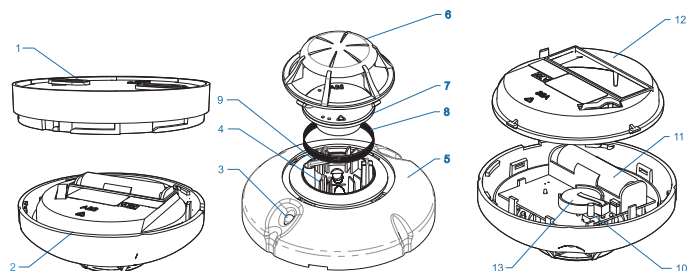

Fig.1
The fire detector consists of a printed circuit board and an optical chamber (pos.7, fig.1) and a thermo sensitive element (pos.9, fig.1), mounted into a plastic box (pos.5, fig.1). The fire detector is also equipped with a micro key, providing control over the removal of the detector from the base and the battery holder. The two LED indicators (pos.3, fig.1), one of them two-color (red and green), and the other – one-color (red), allow 360° visibility and provide information about the operating modes of the detector:
Fire detectors of series VIT are to be used with base type FD100 (pos.1, fig.1). In installation of the detector and the base observe the following sequence:
2. Set the fire detector into "Duty" Mode, and its zone into "Test" Mode and from 20 cm distance influence on the detector by means of a heat tester for testing the thermal part, or by means of a smoke tester for the optical part. For a period of time, not more than 20 s after the influence, the detector should enter "Fire Condition" and LEDs on detector's body (pos.3, fig.1) will illuminate. The current temperature, the smoke concentration, the connection quality and the status of the detector can be monitored from the menu of the Fire Control Panel.
3. The panel automatically gives a command to detector for resetting and he must enter "Duty" Mode up to 1 minute. LEDs on the detector's body (pos.3, fig.1) must turn OFF.